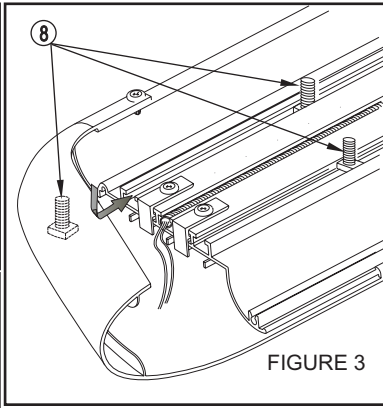
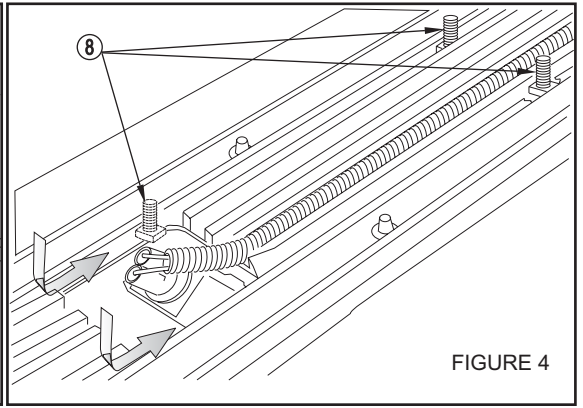

FIGURE 3
FIGURE 4
STEP 6. Insert square head bolts as shown (3 per slot, 6 per Step board/Running board). **SEE FIGURES 3 AND 4.** **NOTE:** For lighted boards, run wiring harness prior to attaching board to brackets (refer to Step 7). **SEE FIGURES 3 AND 4.** Run longer wire harness on passenger side.
HINT: Molded Step Boards: For longevity, check rubber seals before installation. Rubber grommets around red and blue wires going into rear sockets, should be inserted and recessed about 1/4". **NOTE:** Remove bulbs and apply white grease into sockets and replace bulbs. Apply RTV Silicone where lights go into socket. Install lights and run wire loom as shown. **SEE FIGURE 4.** For Sure-Grip Running Boards, run wire loom down center as shown. **SEE FIGURE 3.**